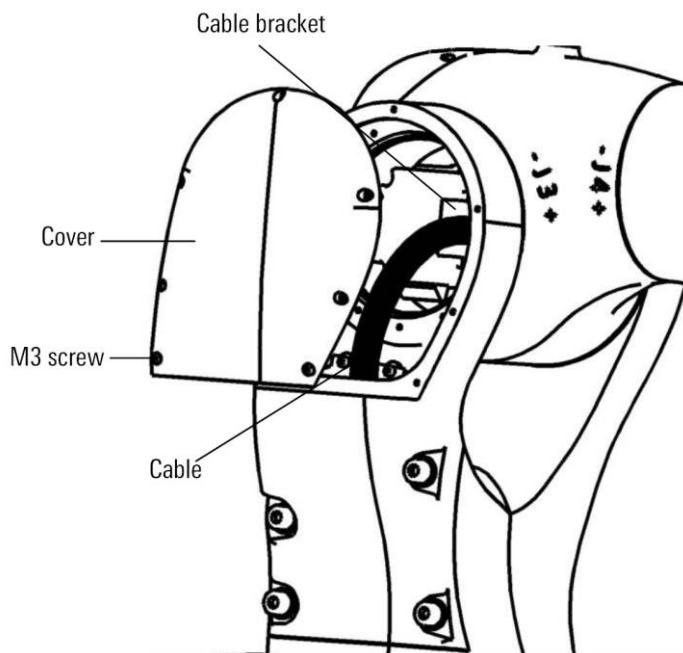

Figure 13-3 Overhaul of internal cable of big arm
- Remove the cover, as shown in Figure 13-3.